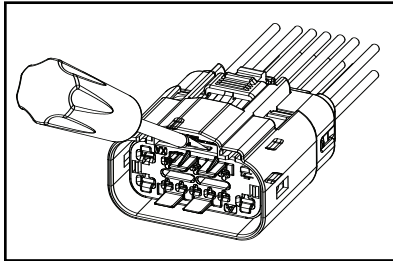

FIGURE 6
- Insert a small flat blade screw driver in the slot provided in the TPA and apply pressure to “Bridge” area of connector as shown in Figure 6.